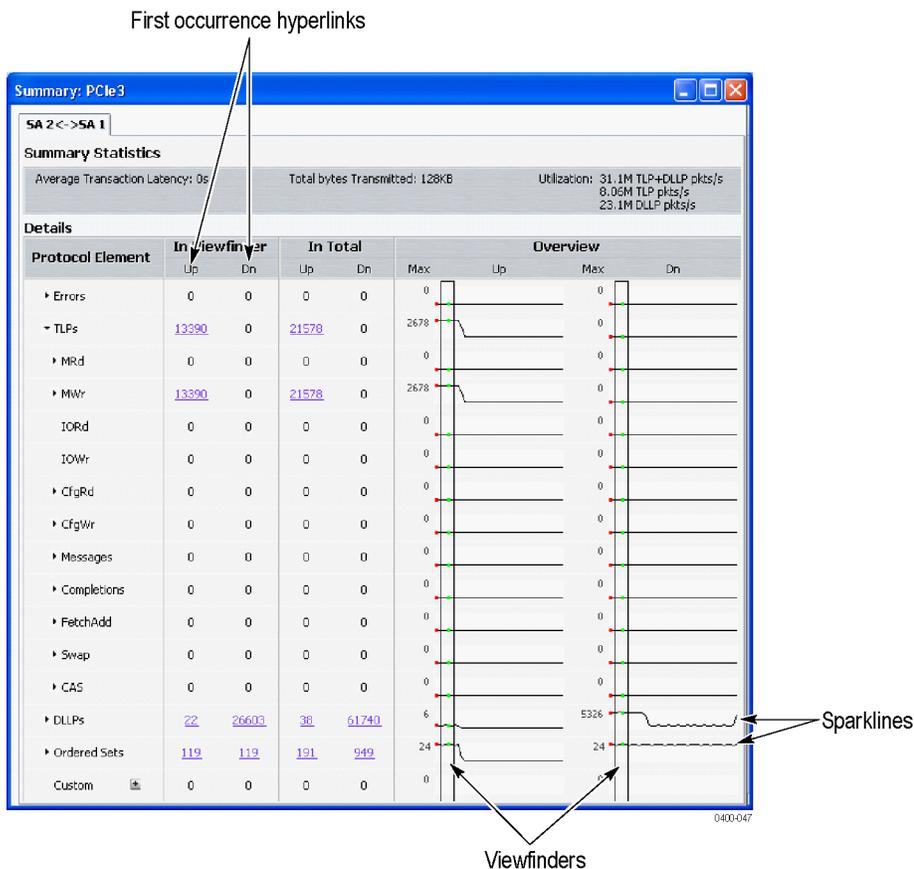

Figure 43: Summary Profile window (Summary Statistics Tab Notebook)
- The In Viewfinder columns list the totals of each element within the Viewfinder regions. Click an item a Viewfinder column to scroll to the first occurrence of the corresponding item in the Transaction window. (See Figure 43.)